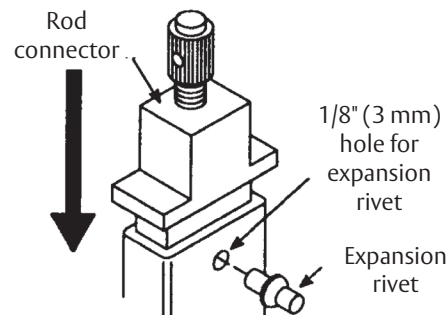

Figure 16
5. Install expansion rivet from the front of the rod through the rod connector. (Figure 16)